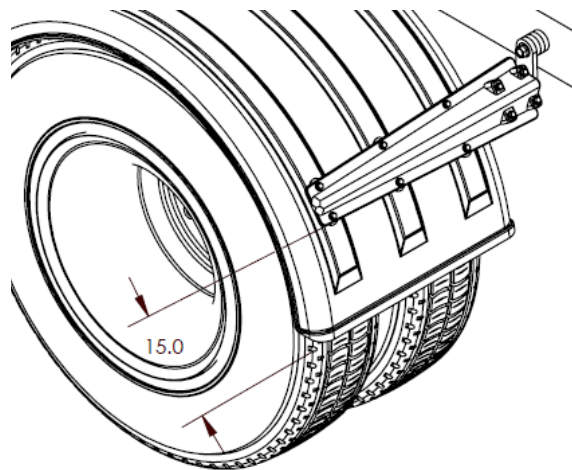

Figure 9
- H. If possible, position the mounting brackets so they are located within 15" of the bottom of the fender. This protects against wind blowing the leading edge of the fender back into the tire (Figure 9).